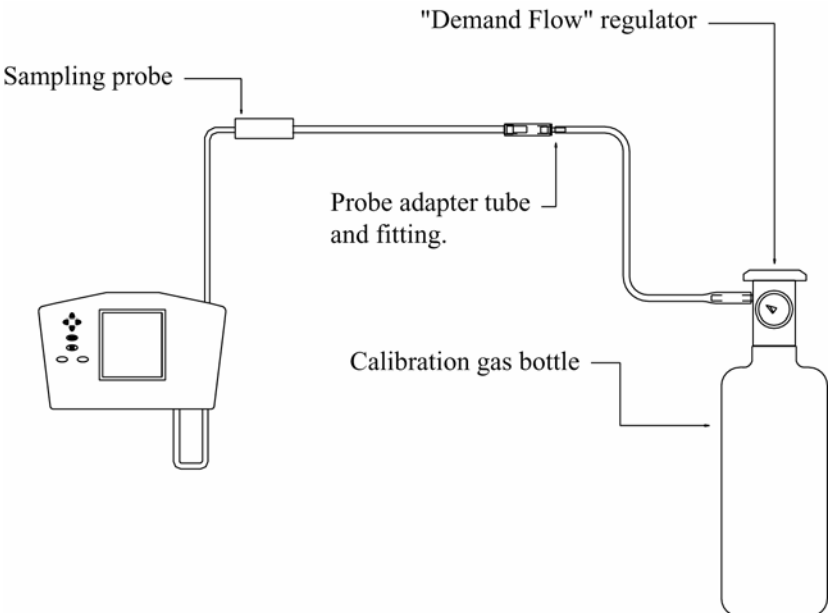
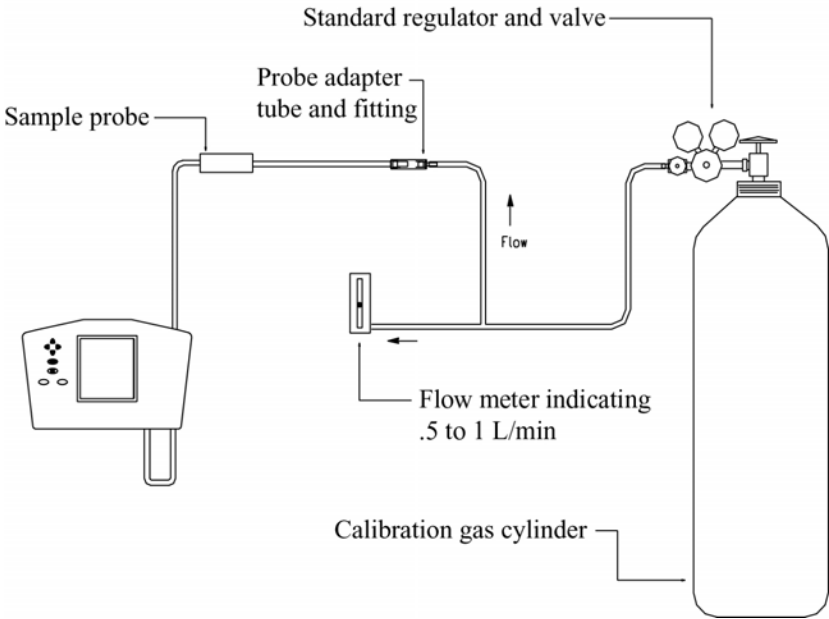

Figure 5. Calibration with Alnor Calibration Kit
Figure 6. Alternative Calibration Setup
With the proper equipment, such as that shown in Figures 5 and 6 below, it is easy to calibrate your CA-CALC gas sensor. If you wish, you may also return your instrument to TSI for a new *factory* calibration, or purchase a new factory calibrated sensor.
The equipment needed to calibrate individual gas sensors can be purchased from TSI as calibration kits, or you may elect to put together your own calibration system. Model numbers for Alnor sensor calibration kits are found in Chapter 2, "Unpacking." Two calibration setups are presented in Figures 5 and 6. A brief discussion of these calibration setups is presented in the following section.
A TSI supplied calibration kit (Figure 5) uses a *Demand Flow* regulator to supply gas to the CGA-801 monitor in response to the draw of the instrument sampling the pump. If a conventional regulator and valve are used (Figure 6), the setup supplies gas to the instrument using a tee to a vent extra gas. This prevents a forced flow at the instrument inlet. The bead-type flow meter depicted in the figure is used to verify there is extra flow (.5 to 2 L/min recommended). Extra flow is required to prevent room air from being drawn in, diluting the sample.
5. Connect your calibration gas to the sampling probe as shown in Figures 5 and 6 described earlier.